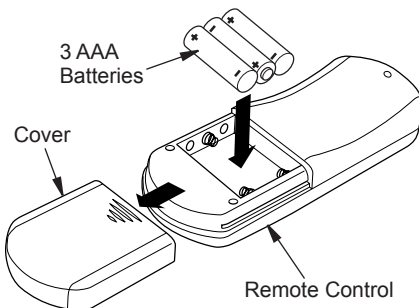

Figure 14 - Installing Batteries in Remote Control
1. Remove remote cover (see Figure 14).
2. Insert 3 AAA batteries into remote control (see Figure 14). Positive and negative are marked inside remote control casing. *Note:* Remote will not function if batteries are not installed correctly.